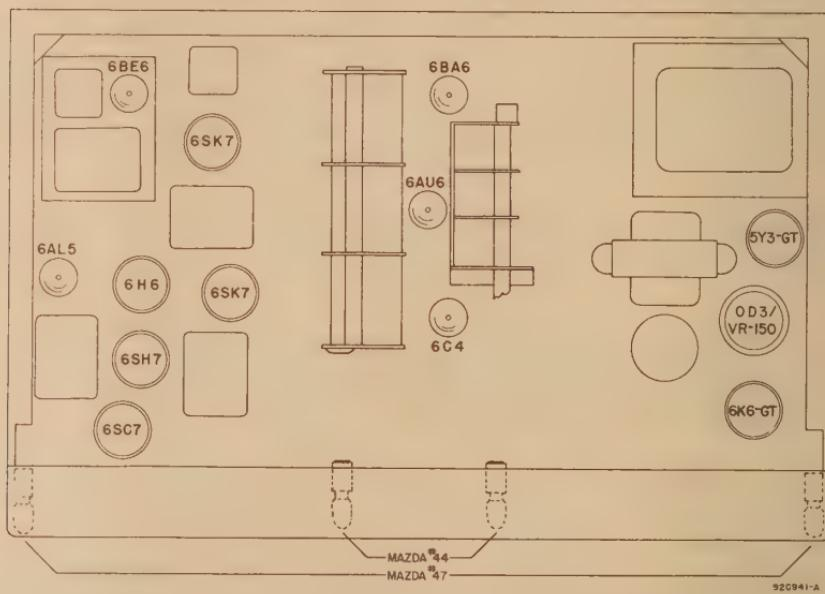

Fig. 8. Top view showing location of tubes and dial lamps.
**TUBE REPLACEMENT** - The types of tubes required and their relative position in the receiver are shown in the illustration, Fig. 8. When installing a replacement tube, insert the center guide pin into the center hole of the tube socket; rotate the tube until the key on the guide pin drops into the notch in the socket hole; push down until the base of the tube rests firmly on the socket. A slightly different technique must be used on the miniature tubes. They have seven small pins which have to be lined up with the socket holes before pushing into place. Handle with care as all tubes are considered fragile and do not tolerate much mechanical abuse.
**DIAL LAMP REPLACEMENT** - Refer to Fig. 8 for the location of the dial lamps in the receiver. Access to defective lamps, may be gained through the top cabinet cover. The two end lamps are fastened by screws to an angle bracket. Remove the screws and change the lamp using a 6-8 V. Mazda #47 (brown bead) or equivalent. To change the two dial lamps in the center, it is necessary to unscrew the two screws holding the sockets in place. These two lamps should be replaced with 6-8 V. Mazda #44 (blue bead) or equivalent.
Bandwidth is controlled by the position of the "figure 8" links on L2 and L5. Typical adjustment is with the link at the end of the winding on L2 but not covering any turns. The other end of the link should be around the winding of L3. The other link should be around the winding of L4 and near the end of L5, covering 2 or 3 turns. Bandwidth is increased by moving the links to cover more of the windings on L2 and L5, decreased by bending the links away from the windings. Mid-band gain is little affected by these adjustments.